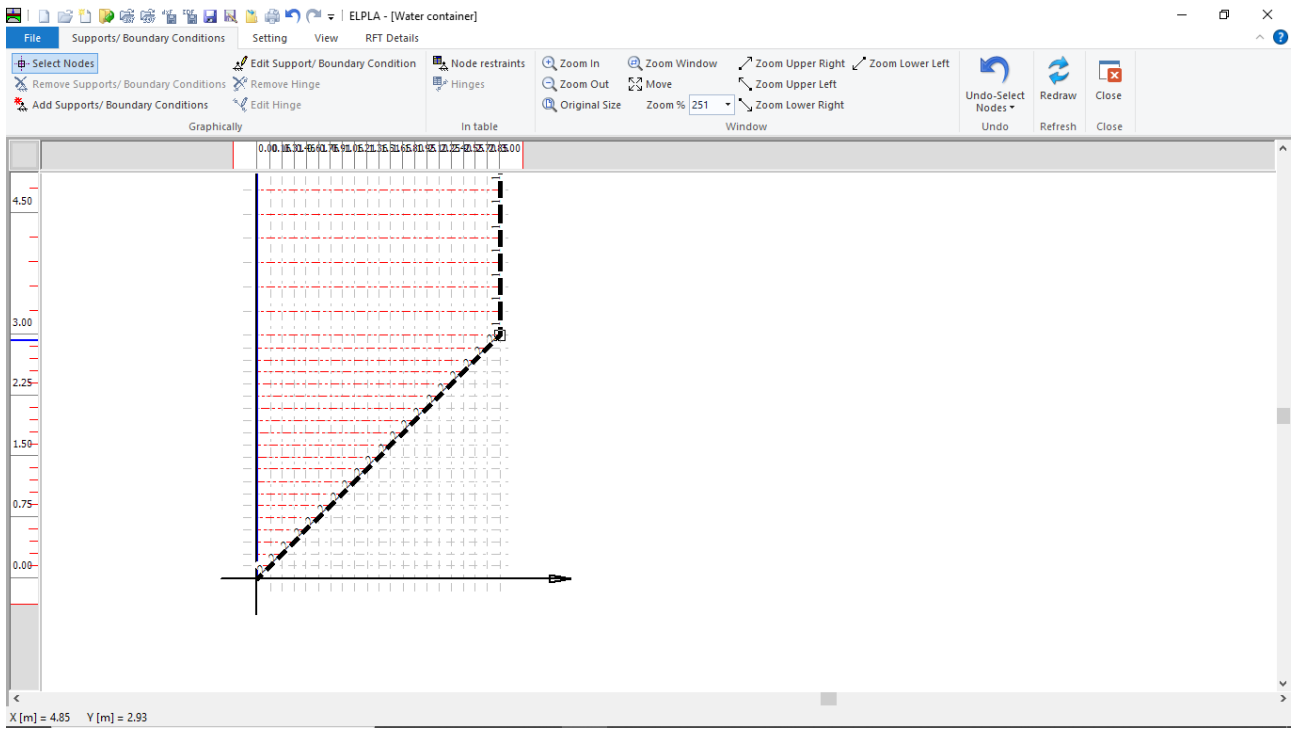

Figure 10.18 Selection of the node that has the support
- Click the left mouse button on the node that has the support as shown in Figure 10.18